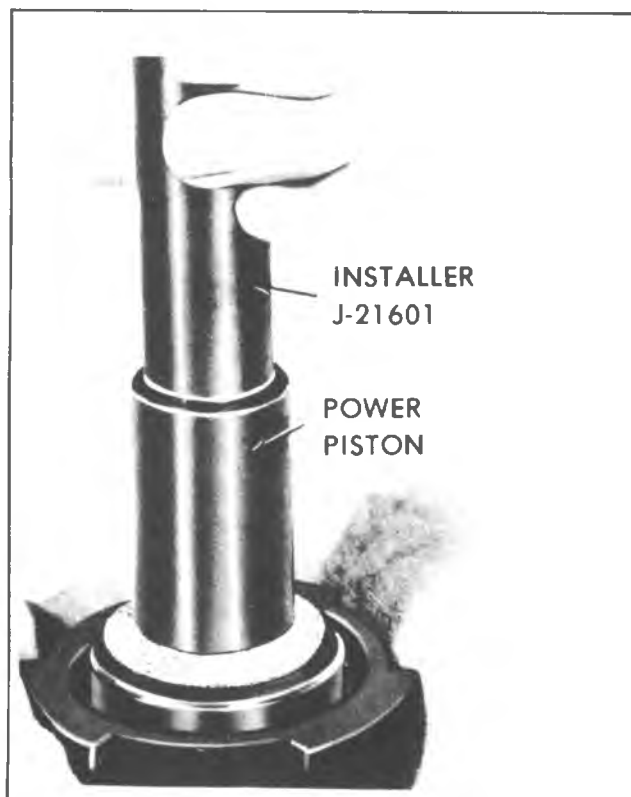

Fig. 5-11C--Installing Floating Control Valve Assembly
10. Start floating control valve and its retainer into power piston tube. Press the floating control valve to seat in the tube, by placing J-21601-01 Floating Control Valve Retainer Installer on top of retainer and pushing down by hand (fig. 5-11C).